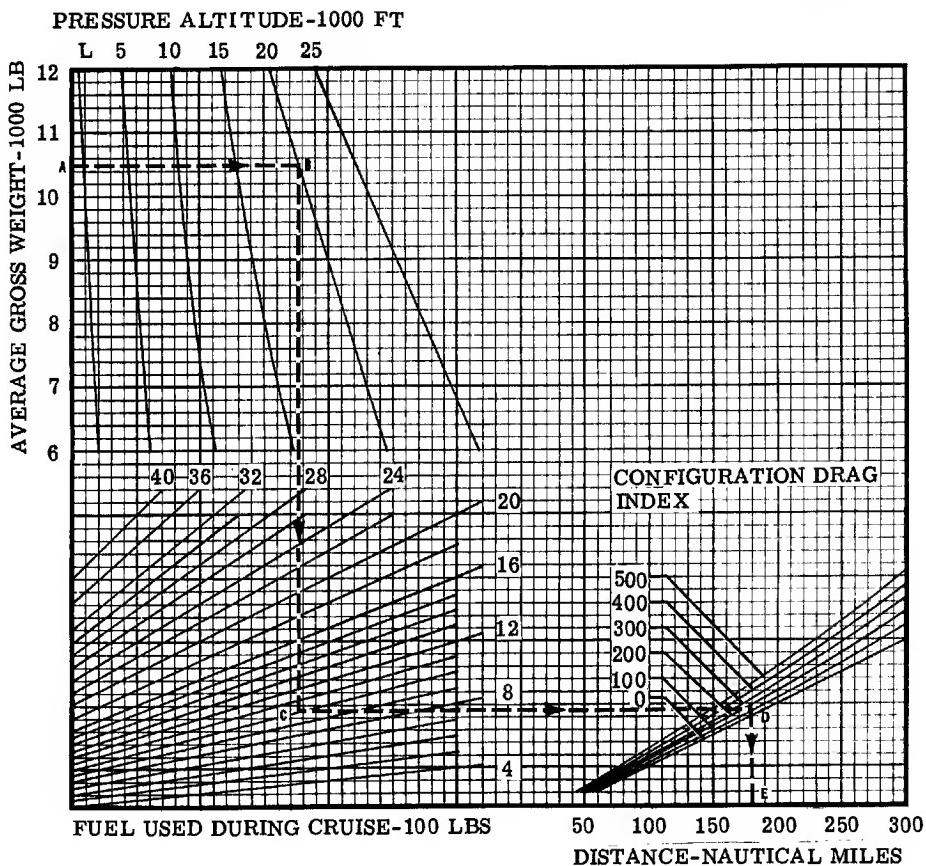

Figure A4-2
The Air Nautical Miles Per Pound of Fuel charts are included to provide the pilot with a means of planning flight whenever the standard Constant Altitude Cruise charts (figures A4-2 thru A4-5) cannot be used. This would be if: (1) it is desired to cruise at speed other than those given in the Constant Altitude Cruise charts or, (2) atmospheric conditions differ appreciably from standard.